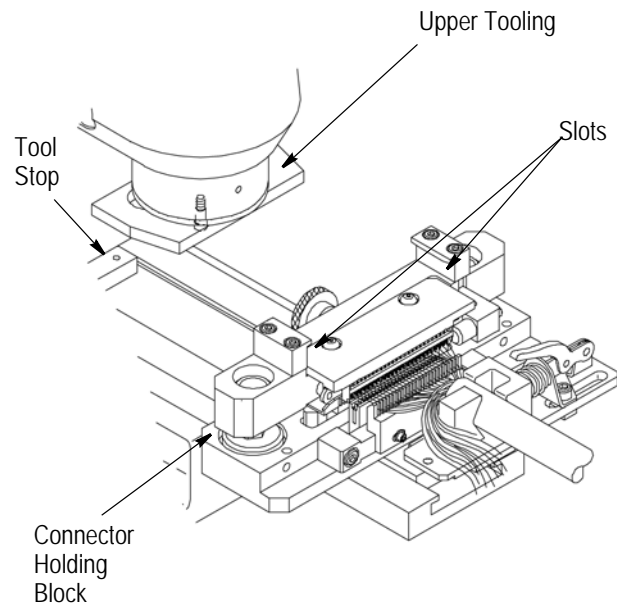

Figure 5
7. Slide the lower tooling toward the frame until the tooling bottoms against the tool stop in the base plate. The upper tooling should enter the slots in the connector holding block, as shown in Figure 5.